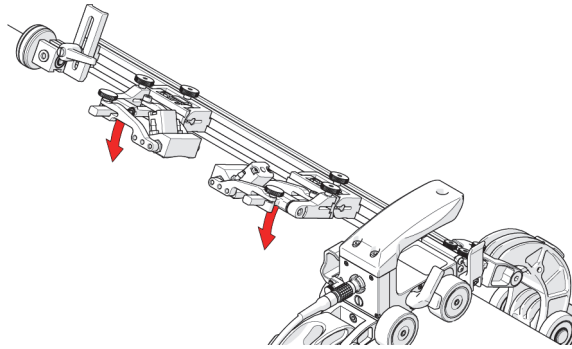

Figure 3-13 Lower probe holders
12. Lower the probe holders to the scan surface (see Figure 3-13 on page 88 and “Probe Holder Adjustment” on page 59).